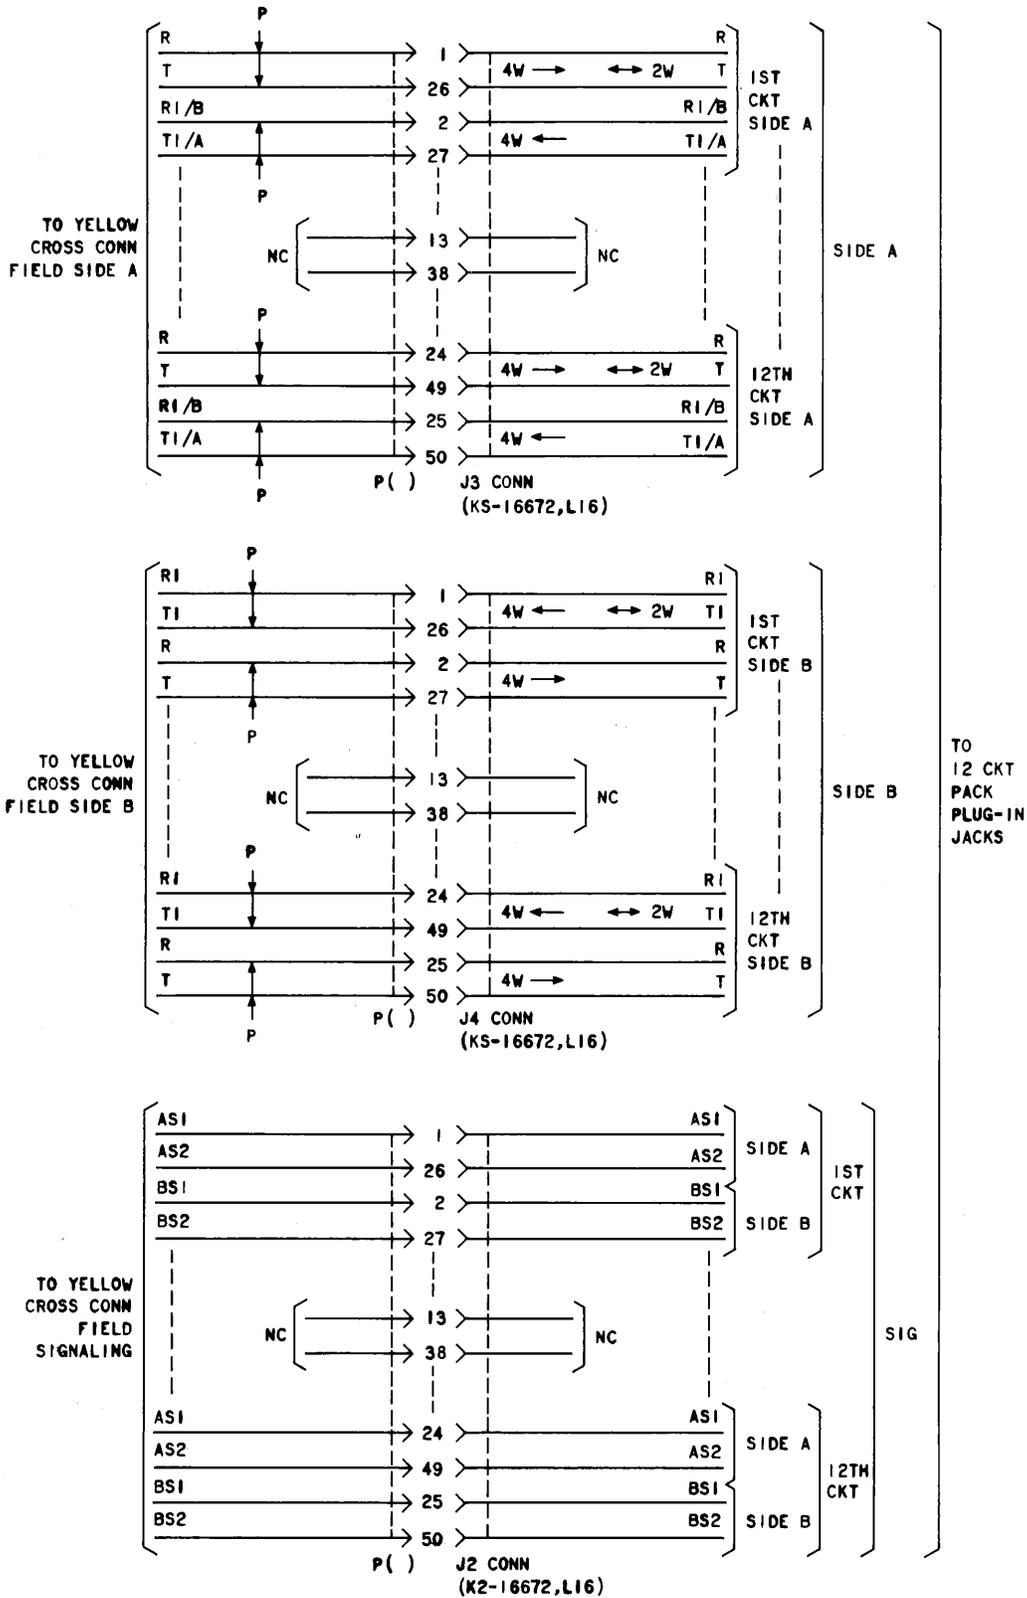

Fig. 7—J99380A Shelf Connector Interface
4.05 The J99380A shelf has mounting space for 12 MFT transmission units, or 12 MFT LSEs, or any combination of these totaling 12. No signaling units other than the LSE should be mounted in the J99380A shelf. Each of the 12 slots of the shelf is wired for 4-wire transmission and A and B signaling leads in each direction as shown in Fig. 7.